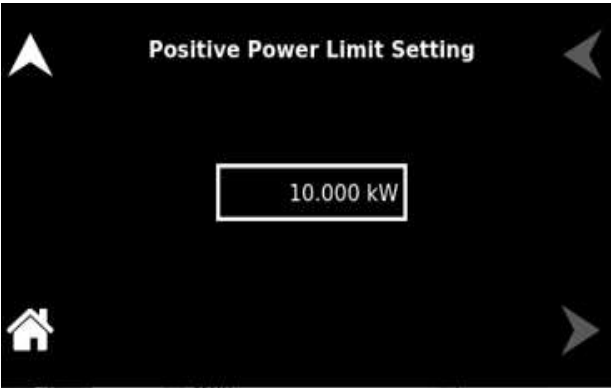

Figure 9-27. Positive Power Limit
**Pos. Power Limit**      Users can set a positive power limit value, and which functions as a trip limit. Refer to Figure 9-27.